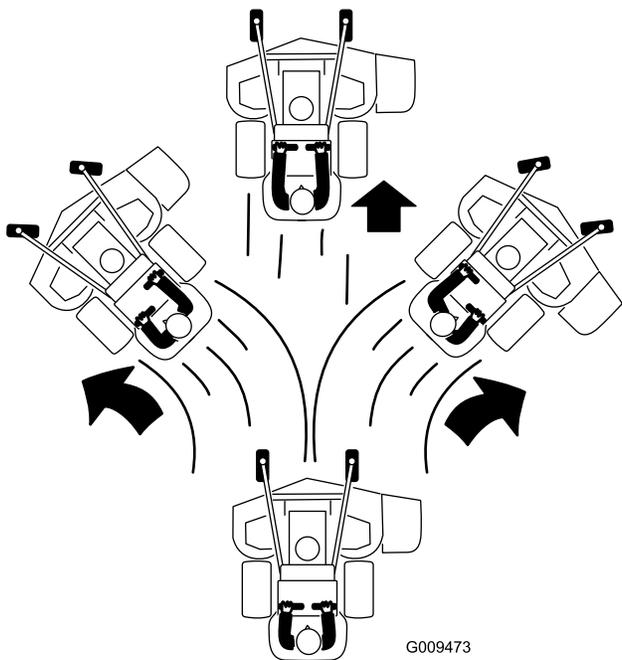

Figure 23
4. Slowly push the motion-control levers forward (Figure 23).